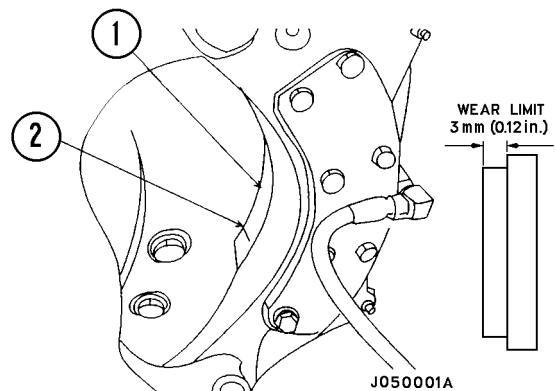

FIGURE 40-9. FRONT PAD WEAR
3. Check disc pad (1, Figure 40-9) visually, and if the pad has reached the wear limit line (2) or if disc material thickness is less than 3 mm (0.12 in.), replace the pad.